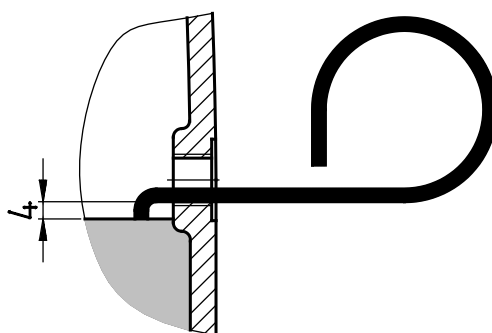

Figure 33: Checking the oil level with a dipstick
2. Check the oil level in the gear unit with the dipstick supplied (Part No.: 28300500), as shown in Figure 33. To do this, the part of the dipstick which is submerged in the oil must be held vertically. The maximum oil level is the lower edge of the oil level hole. The minimum oil level is approx. 4 mm below the lower edge of the oil level hole. The dipstick then just dips into the oil.